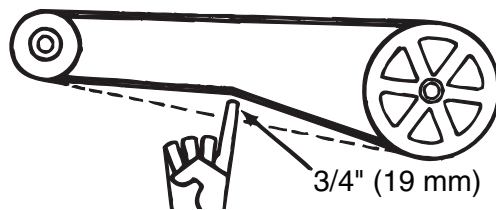

Figure 17. Checking Belt Tension
- Proper belt tension is important to the long life of the belt and motor. A loose belt will cause wear and slippage. Too much tension will cause excessive motor and blower bearing wear. Check belt tension as shown in **Figure 17**.
- If the belt cannot be depressed 3/4 inches (19 mm), as shown in **Figure 17**, adjust the belt tension as follows: